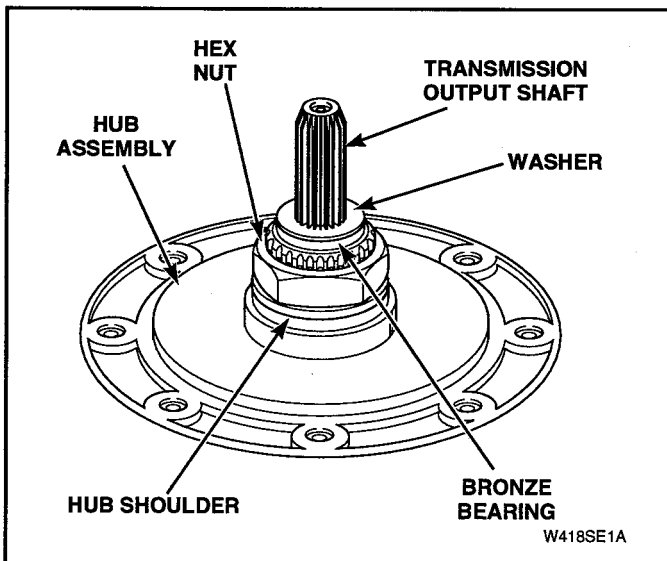

Figure 5-15
- Thoroughly clean all foreign material from seal mounting area of hub assembly, bronze bearing and washer. See Figure 5-15.